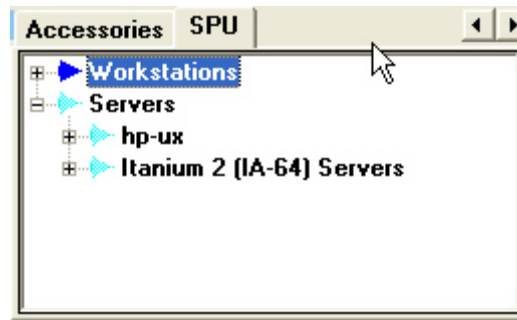

Figure 1: SPU tab
**Note:** The SPU tab is the rightmost of the available tabs (from left-to-right being Enclosures, Software, Accessories, and SPU). This is not to be confused with the SPU button that appears as one of the buttons located below the parts tabs display. You may have to use the arrows at the upper right-hand corner of the tabbed displays to scroll over to the SPU tab. Choices are limited to "homogeneous systems," namely systems in the same class. See Figure 1 below.